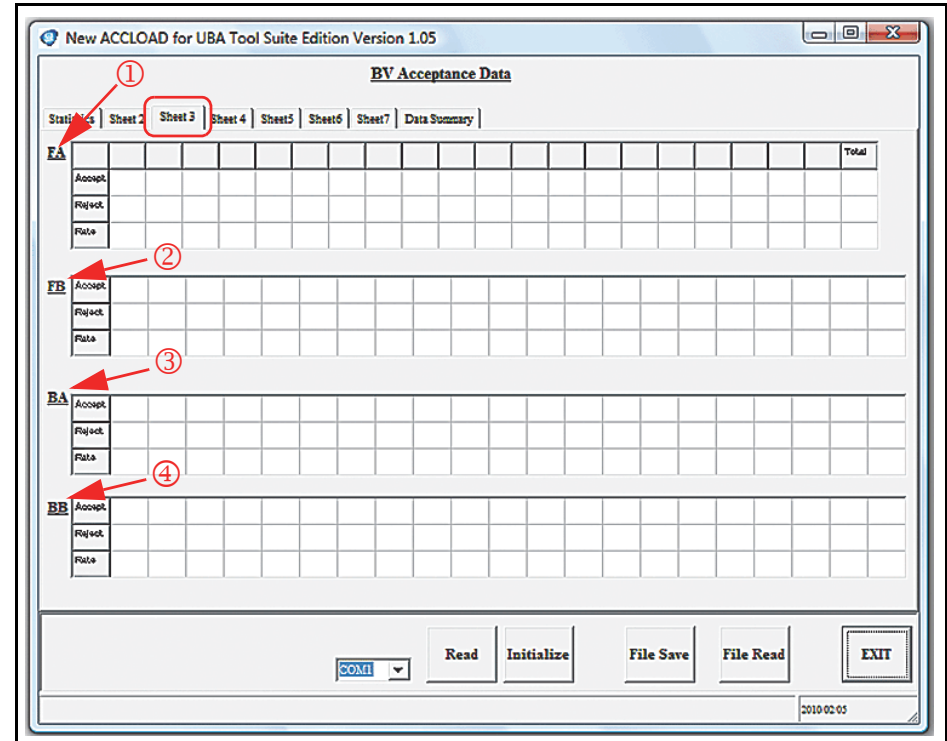

Figure 7 Initial AccLoad Program Screen (Sheet 3 Tab)
“Sheet 3” shown in Figure 7 provides Cell Areas addressing the Acceptance Rate of each Banknote Type (i.e., FA ①, FB ②, BA ③, & BB ④) related to its specific insertion direction for its Accept, Reject, and Rate.